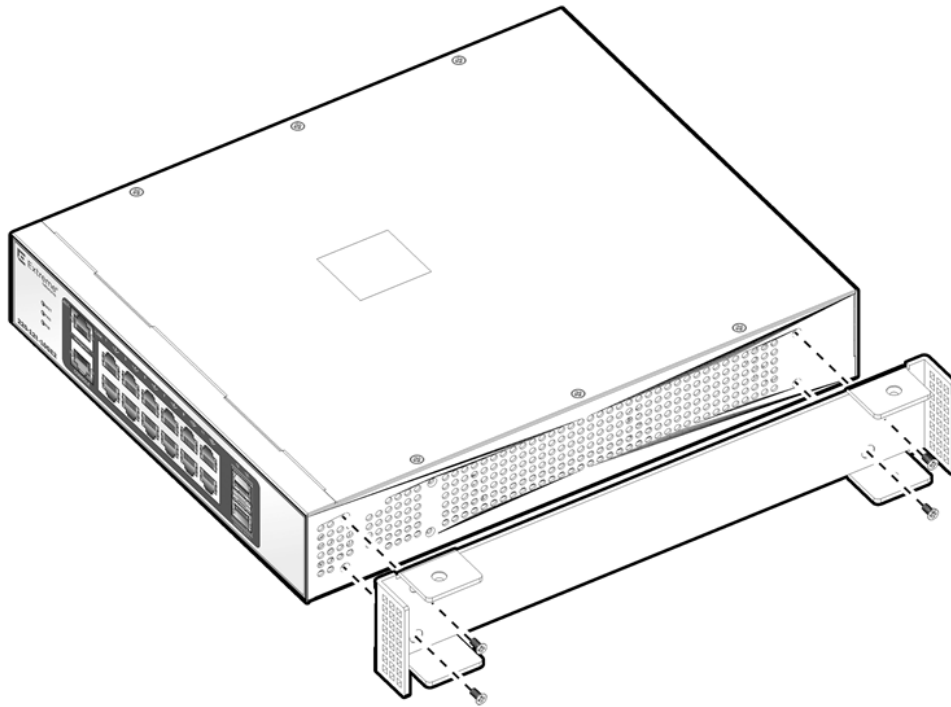

Figure 37: Dual-Mount: Attaching the Long Middle-Support Bracket to the First Switch
- b Using four chassis screws, attach the long middle-support bracket to the right side of the switch. See Figure 37.